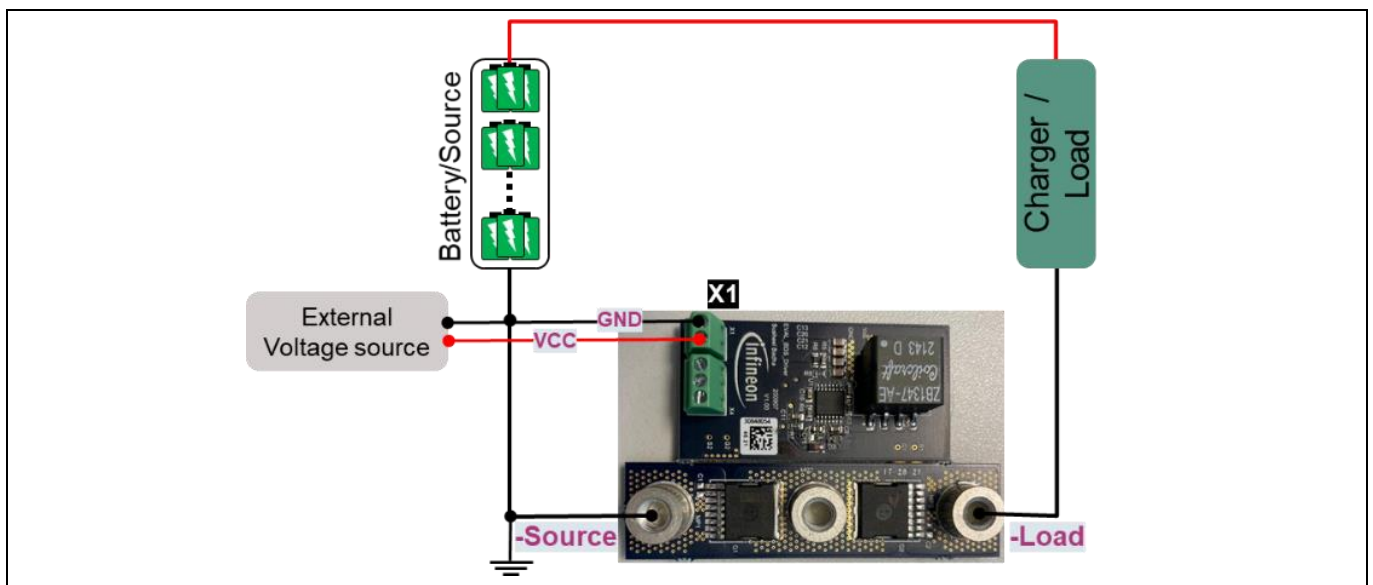

Figure 11 Powering the gate driver board with external source
2. **External power supply:** As shown in **Figure 11**, an external power supply voltage between 20 to 80 V is used. Connect pin 2 of the X1 connector on the gate driver board with the positive terminal of the external power supply and pin 1 to the ground of the external power supply. Additionally, connect the external power supply's ground with the battery's negative terminal.